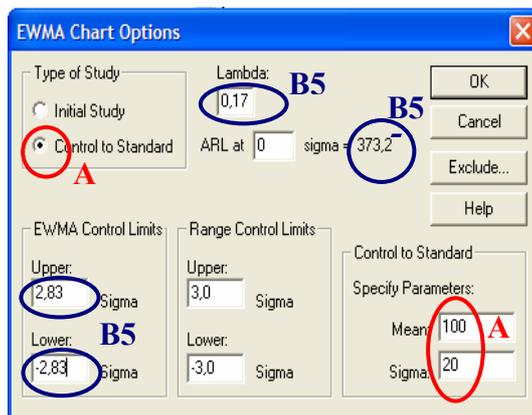

Figure 8 – Steps A and B5 of the example solution
A. For the first time we must select in the EWMA Chart Options dialog box the Control to Standard type of study and specify parameters mean ($\mu_0 = 100\text{mm}$) and sigma (σ_0 is 20 mm) – see Fig. 8, character A.
5. We entered read values of λ and K into the EWMA Chart Options dialog box and the program computed $ARL(0) = 373,2$ (see Fig. 8, character B5).